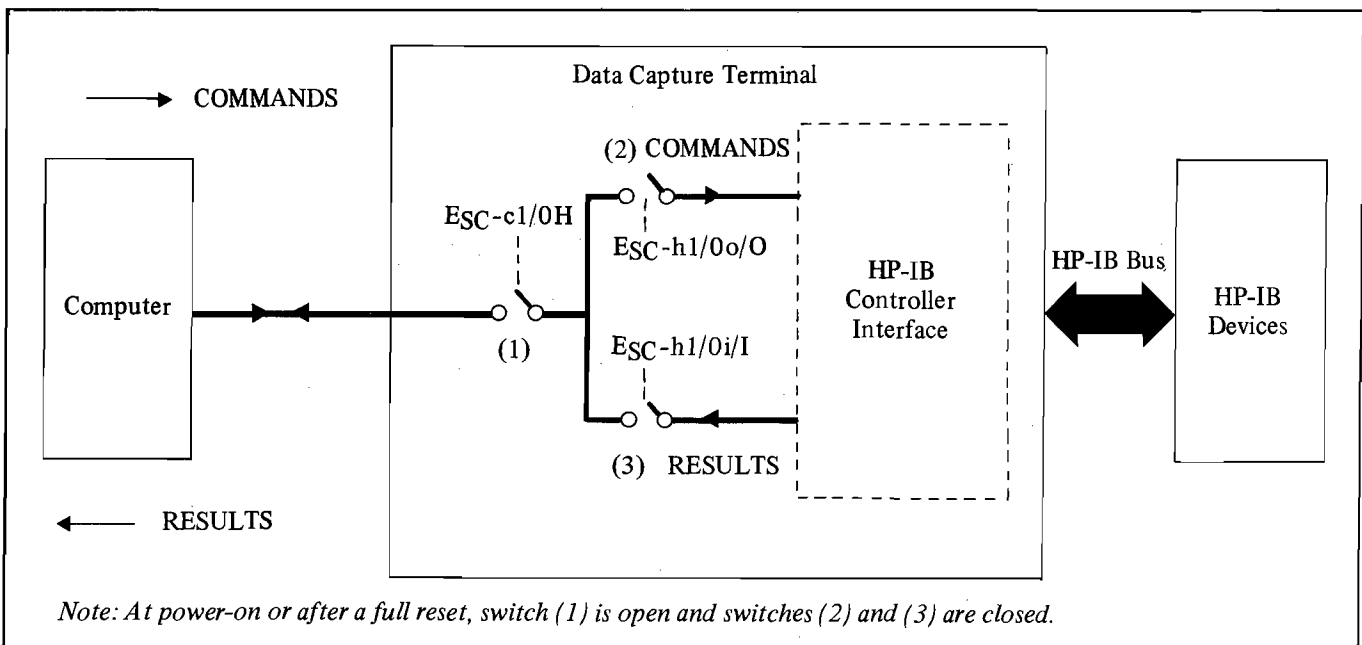

Figure 10-3 HP-IB Controller Enabling/Disabling
When enabled (i.e. $N = 1$) all RESULTS from the HP-IB Controller are transferred to the computer (figure 10-3 switch (3) closed). This assumes the HP-IB Controller is enabled by escape sequence $ESC-c1H$ (figure 10-3 switch (1) closed).
When enabled (i.e. $N = 1$) all COMMANDS from the computer are transmitted (output) to the HP-IB Controller for execution (figure 10-3 switch (2) closed). This assumes the HP-IB Controller is enabled by escape sequence $ESC-c1H$ (figure 10-3 switch (1) closed).